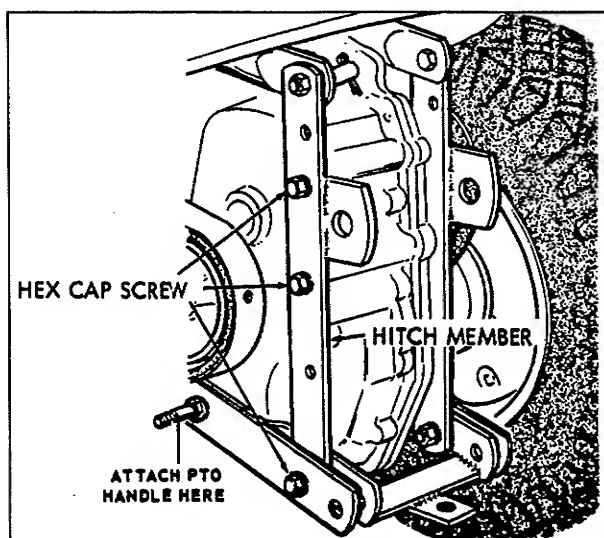

Figure 13
1. Remove 3 hex cap screws from left side of tractor as shown in Figure 13.